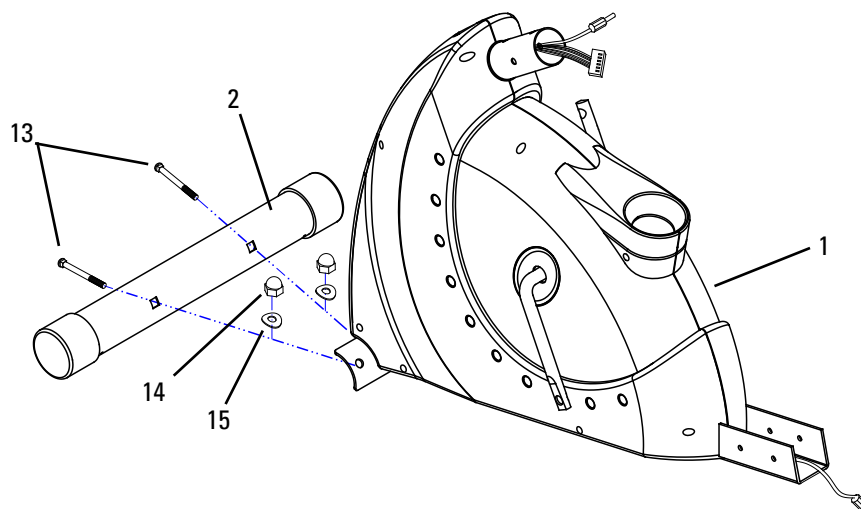

Figure 1
1-1: Install Front Stabilizer (2) to Main Frame (1) using 2 Carriage Bolts (13), 2 Arc Washers (15), and 2 Acorn Nuts (14) as indicated (Figure 1).